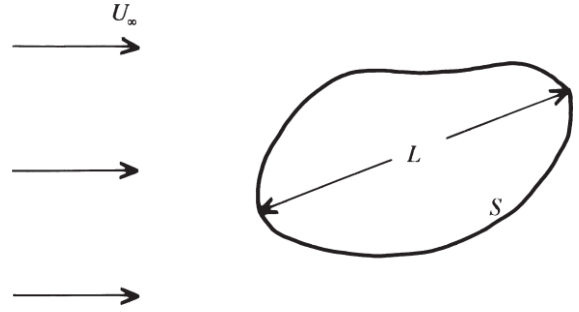

FIG. 6. – Flow of a uniform stream with velocity U_∞ in the x -direction past a body with boundary S which has a typical length scale L .
Consider a fixed rigid body, with a typical length scale L , in a fluid which far away has constant, uniform velocity U_∞ in the x -direction (fig. 6). Whenever we want to consider a particular body, we choose a sphere of radius a , diameter $L = 2a$. The governing equations are (8) and (16), and the boundary conditions on the velocity field are